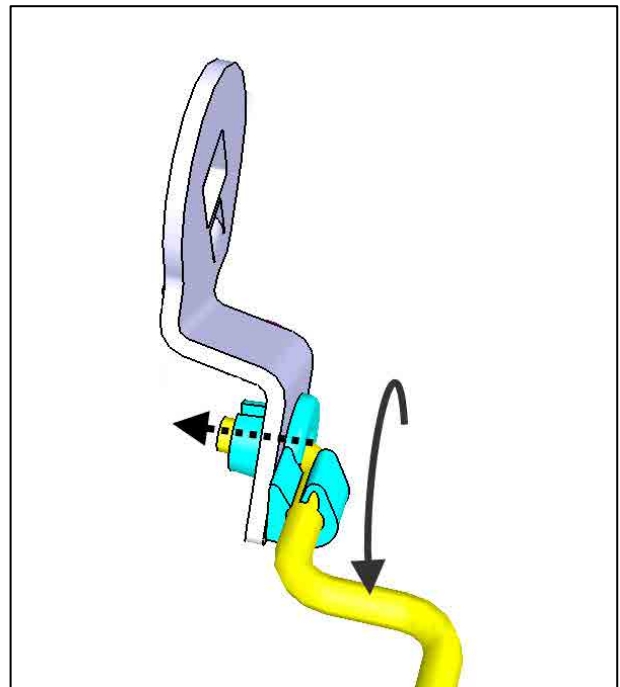

FIGURE 13
- 17.** Insert the rod in the clip bushing (Fig. 13)
(Fig. 13)